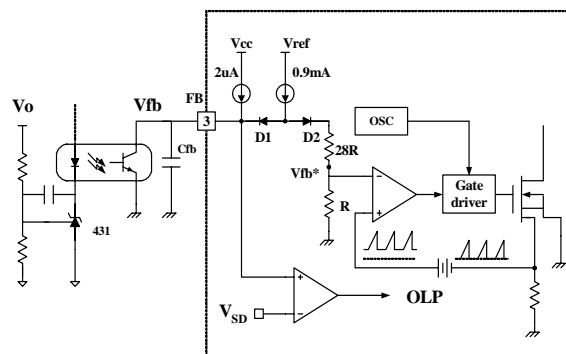

Figure 5. Pulse width modulation (PWM) circuit
2. Feedback Control : The FSDL0165RN employs current mode control, shown in figure 5. An opto-coupler (such as the H11A817A) and shunt regulator (such as the KA431) are typically used to implement the feedback network. Comparing the feedback voltage with the voltage across the Rsense resistor plus an offset voltage makes it possible to control the switching duty cycle. When the reference pin voltage of the KA431 exceeds the internal reference voltage of 2.5V, the H11A817A LED current increases, thus pulling down the feedback voltage and reducing the duty cycle. This event typically happens when the input voltage is increased or the output load is decreased.